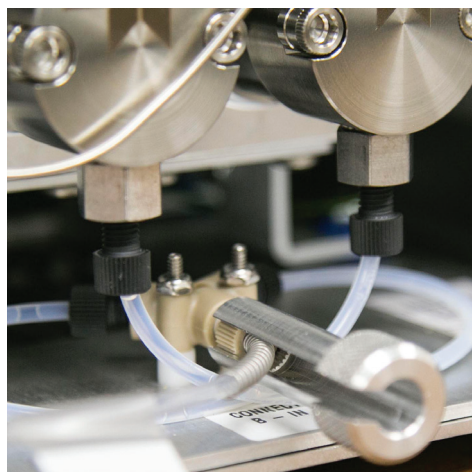

Figure 2-8 Wrench used to tighten the FEP inlet line
3. Connect the *shorter* FEP inlet solvent line to the left side pump's PEEK tee. Slide the spring down the tube and place the open side of the wrench (included) over the tubing and FEP fitting and make small turns as to not bend the tubing (Figure 2-8). Slide the spring back into place.
4. Connect the *longer* FEP inlet solvent line to the right side pump's PEEK tee. Slide the spring down the tube and place the open side of the wrench (included) over the tubing and FEP fitting and make small turns as to not bend the tubing (Figure 2-8). Slide the spring back into place.